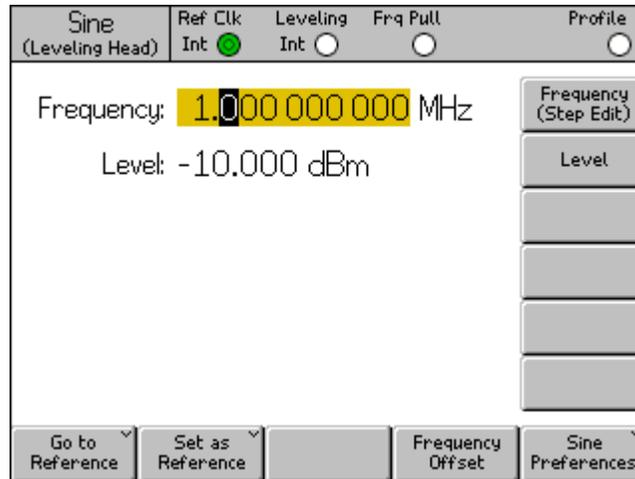

Figure 3-5. Leveled Sine Screen
Push any one of the main function keys on the front panel, **SINE**, **MOD**, **SWEEP**, to show the appropriate main screen on the display (see the Leveled Sine screen below). Editable data fields occupy the central portion of the screen; the status bar is at the top of the screen. The soft labels run down the right side and across the bottom of the screen. See Figure 3-5.
1. Bring up an appropriate screen, for example, the Leveled Sine screen shown in Figure 3-5.
When selected, field *focus* is easily identified by the shading of its data. In Figure 3-5, for example, the Frequency field has the *focus*, and the edit mode is Cursor, as identified by the black cursor (marker) that can move from digit to digit (left-right, $\leftarrow\rightarrow$). In this case, the user can easily make minor edits to the selected digit using the spin wheel or the up-down ($\uparrow\downarrow$) keys. If several characters in the field need to change, using the alphanumeric keypad to edit the field (Keypad edit) is a better choice.